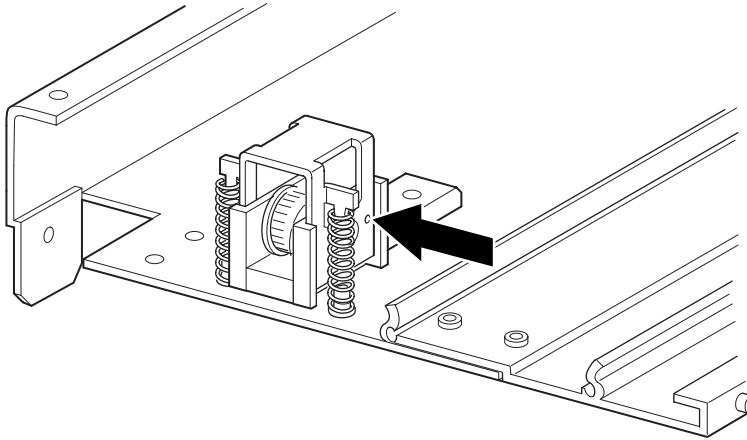

Figure 19 Tensioner ramp/idler pulley zero point
3. Insert a large paper clip through the holes on the idler pulley base to set the idler pulley tension to zero. (See Figure 19 on page 28.)
2. Insert a large paper clip through the holes. This sets the idler pulley to the zero position (see Figure 19).